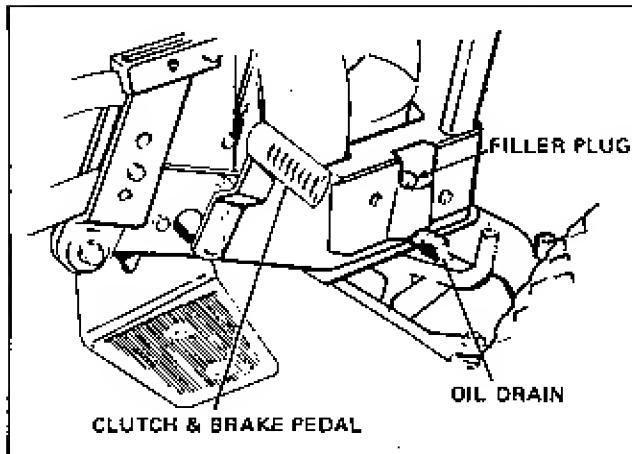

Figure 11
Service air cleaner and crankcase as recommended in Engine Service Manual. Be sure air cleaner is maintained in clean condition. Never use oil in crankcase for more than 25 hours of operation. See Figure 11. CLEAN AIR AND CLEAN ENGINE OIL WILL GIVE LONG TROUBLE FREE OPERATION. DIRT WILL RUIN YOUR ENGINE IN A
3. Depress the clutch and brake pedal as far as it will go. See Figure 11.